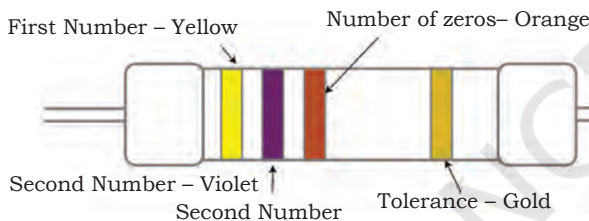

Fig. 2.5: Four-band resistor specification
2. The first band on a resistor is interpreted as the first number of the resistor value. For the resistor shown in Fig. 2.5, the first band is yellow, so the first number is 4.